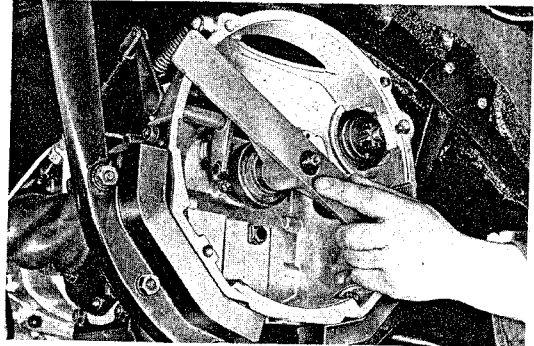

Fig. 24
Fig. 24 shows the engine being removed by means of a hoist and portable jack.
3. The clutch release bearing must be parallel to the gearbox flange (Fig. 24). Check with special tool P 35a. The correct distance from the flange to the bearing face is 50 mm ($1\frac{31}{32}$ in.).